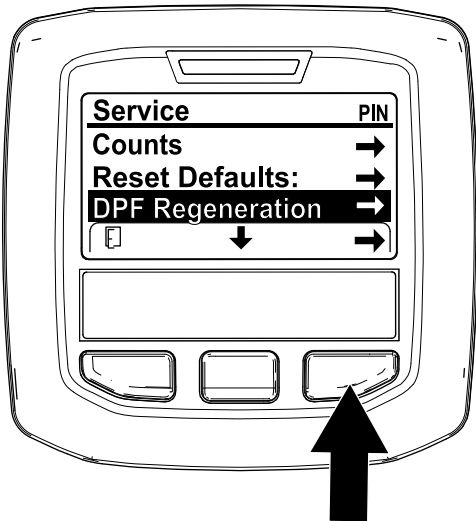

Figure 41
- 1. Access the Service menu, press the center button to scroll down to the DPF REGENERATION option (Figure 41).
- 2. Press the right button to select the DPF Regeneration entry (Figure 41).